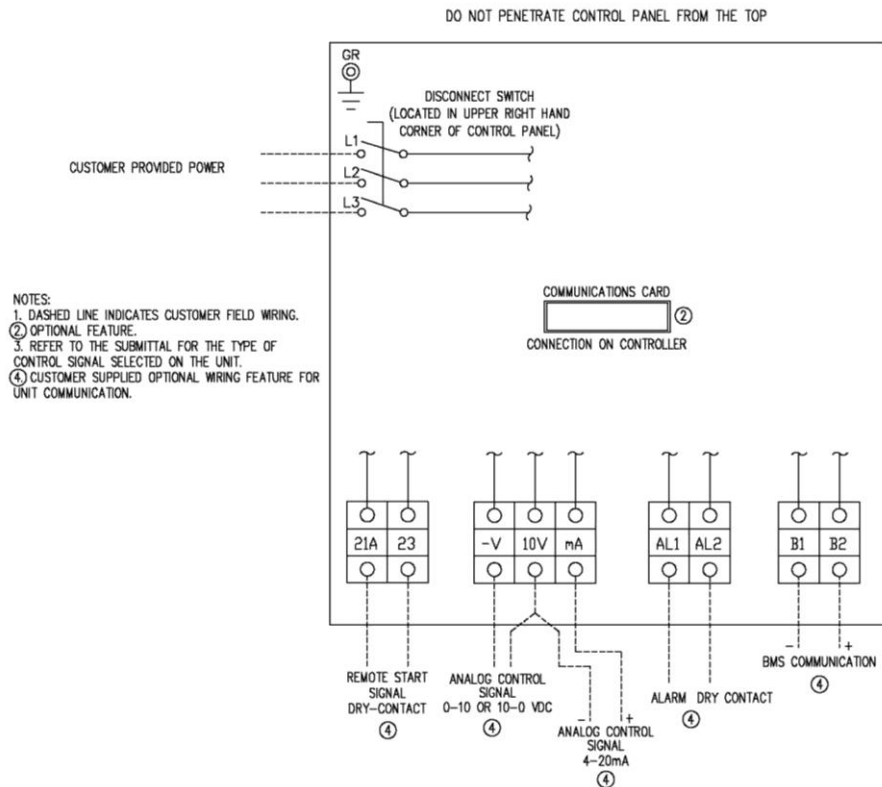

Figure 3. Control Panel Field Wiring
1. Verify that Building Management System (BMS) interface is correctly wired to the iPilot® control system per Figure 3 and the unit submittal package.